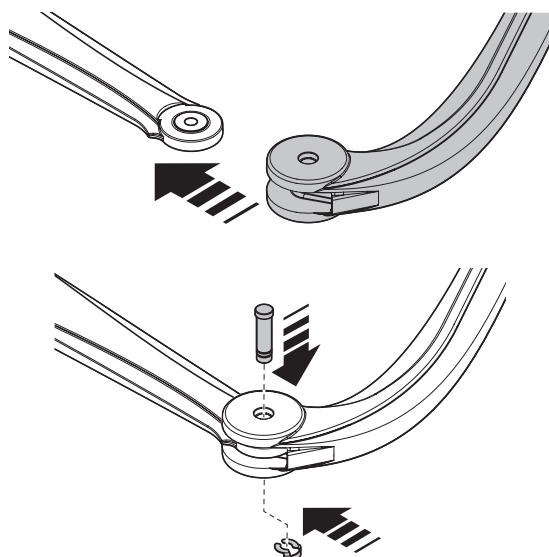

Fig. 9
02. Fix the two arms to each other using the pin and the seger **Fig. 9**;